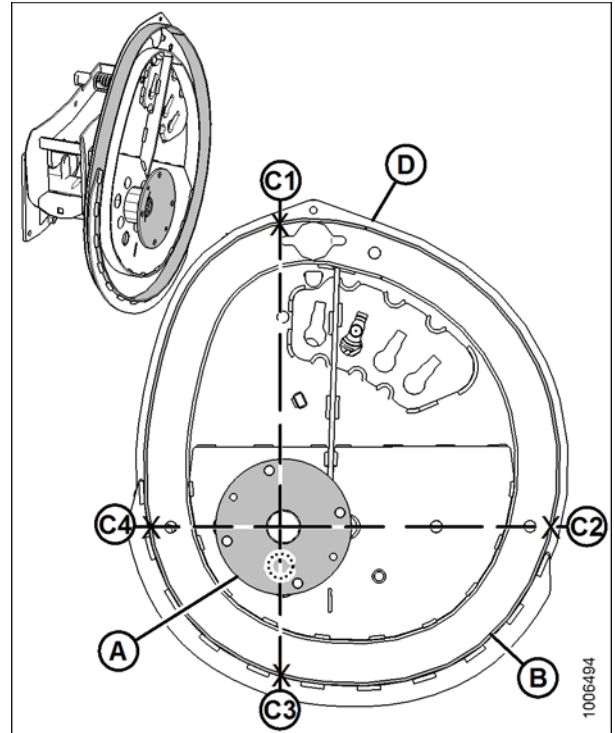

Figure 1 Inspection Locations
- e. On the cam track plate, locate and mark each inspection location (C1, C2, C3, C4). (Figure 1)